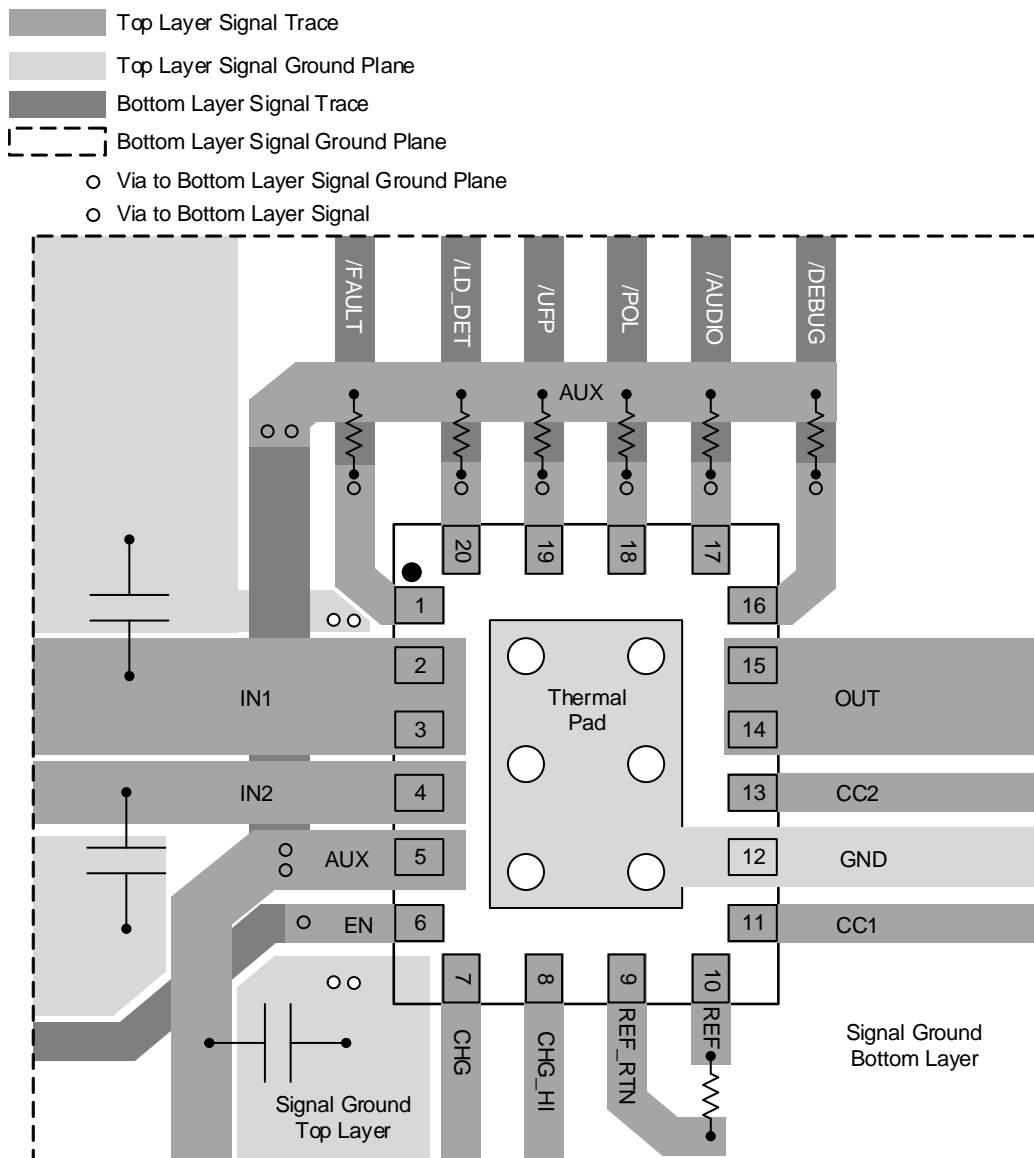

图 29. Layout Example
- Care must be taken to minimize the loop area formed by the bypass-capacitor connection, the IN1 pin, and the GND pin of the IC. See Figure 29 for a PCB layout example.
- The REF_RTN pin should be isolated from the GND plane. See Figure 29.